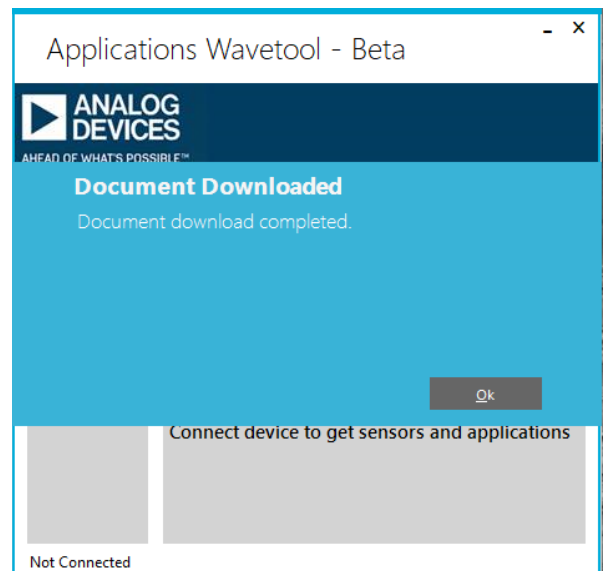

Figure 4. *Document Downloaded* Message
3. Depending on the speed of the internet connection, it can take from several seconds to a minute to download the documentation. After the document is downloaded, the prompt shown in Figure 4 appears. Click the **Ok** button to open the documentation in a browser window.